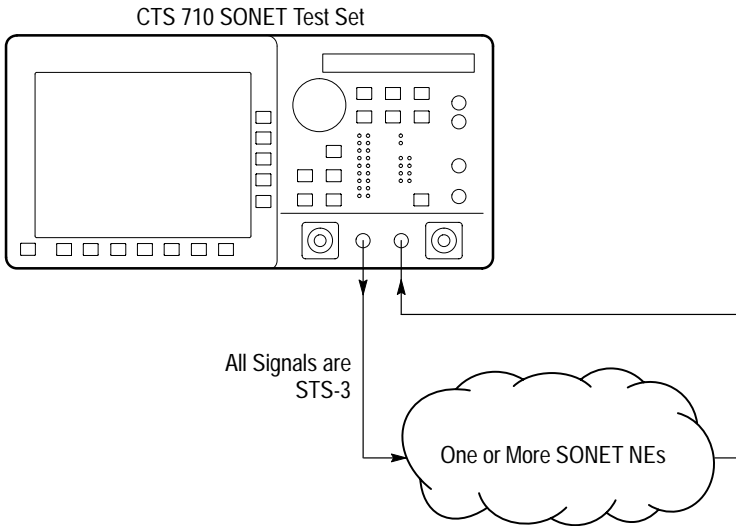

Figure 3-1: Setup to Check Network Continuity
1. Connect the CTS 710 to the NE as shown in Figure 3-1.